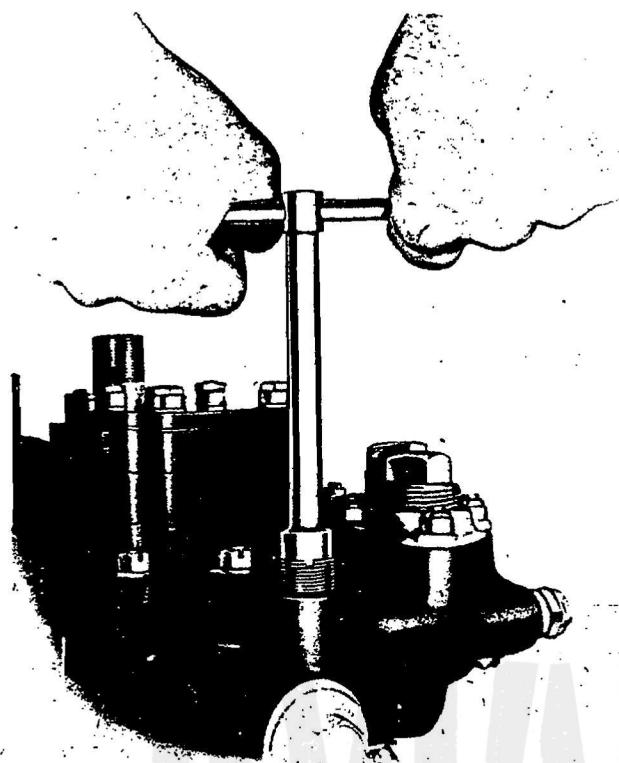

Figure 70—Removing Oil Pressure Relief Valve Body
(2) The relief valve body may be unscrewed from the aluminum alloy oil pump body by inserting the lugs of the wrench (Tool No. 83660) into the slots on the rear end of the relief valve body. Installation of a replacement bronze body is accomplished with the same tool. See figure 70.
(3) To assemble the unit, insert the hollow piston-type valve into the bronze relief valve body and place the coiled spring inside the piston. Screw the adjusting screw in approximately one-third of its length on the outside diameter of the bronze body over the extended end of the coiled spring. Install the lock nut